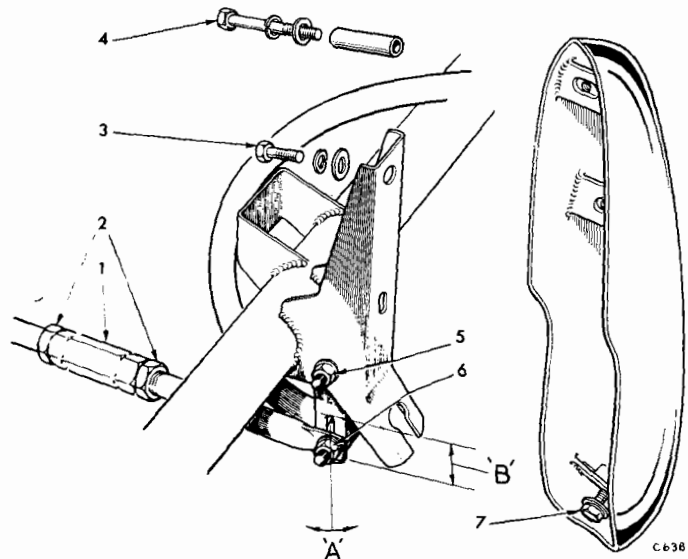

Fig. 9. Bonnet adjustment points (1200 and 12/50)
1200 and 12/50 only (Fig. 9)
If slight adjustment is required to achieve a parallel clearance of $\frac{3}{16}$ " (5 mm.) between the bonnet and scuttle panel, slacken the locknuts (2) and turn the sleeve nut (1) (Figs. 9 and 10) on either side as necessary.
Vertical Adjustment (Figs. 9 and 10)
Unscrew 12 cross/recess screws securing the grille mesh to the grille surround. To release the grille surround, remove the uppermost override attachment bolts (4) shown in (Fig. 9).
Referring to Fig. 9, open the bonnet and release the overrides by removing bolts (3) and (4) and slacken lower bolts (7). Remove the overrides from the mounting brackets. Remove four cross/recess screws (2), Fig. 18, and four hex/headed screws (1) and (3).
Open the bonnet and referring to Fig. 9 (pages 5-205) remove bolts (3) and (4) and slacken lower bolts (7). Remove the override.